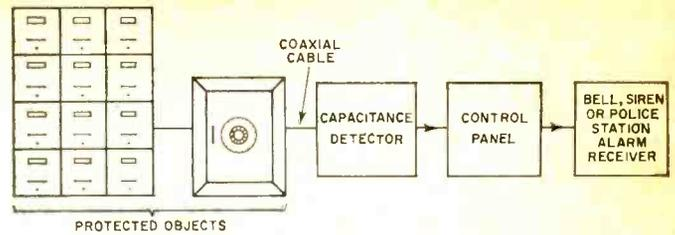

Fig. 2. Capacitance detector connected to safe, file cabinets.
Similar to the vibration detector is the capacitance detector made by *Honeywell*, *Kidde*, and *ADT*. The capacitance detector uses a very unstable oscillator connected to an external antenna loop. The antenna loop is actually made up, in part, by the objects to be protected, as shown in Fig. 2. Anyone nearing the "antenna" changes its capacitance. This change in capacitance is detected by a Wheatstone-bridge circuit and used to sound the alarm. Some capacitance detectors react to anyone going near the protected object, while others require that the object actually be touched.
Fig. 2. How response curve is formed in stagger-tuned strip. (A) Single coil responds with peak at its resonant frequency. (B) Trap responds with dip at resonance. (C) Coils and traps combine into over-all response curve. (D) Incorrect response curve caused by one coil ( $L_1$ ) being tuned to wrong frequency.